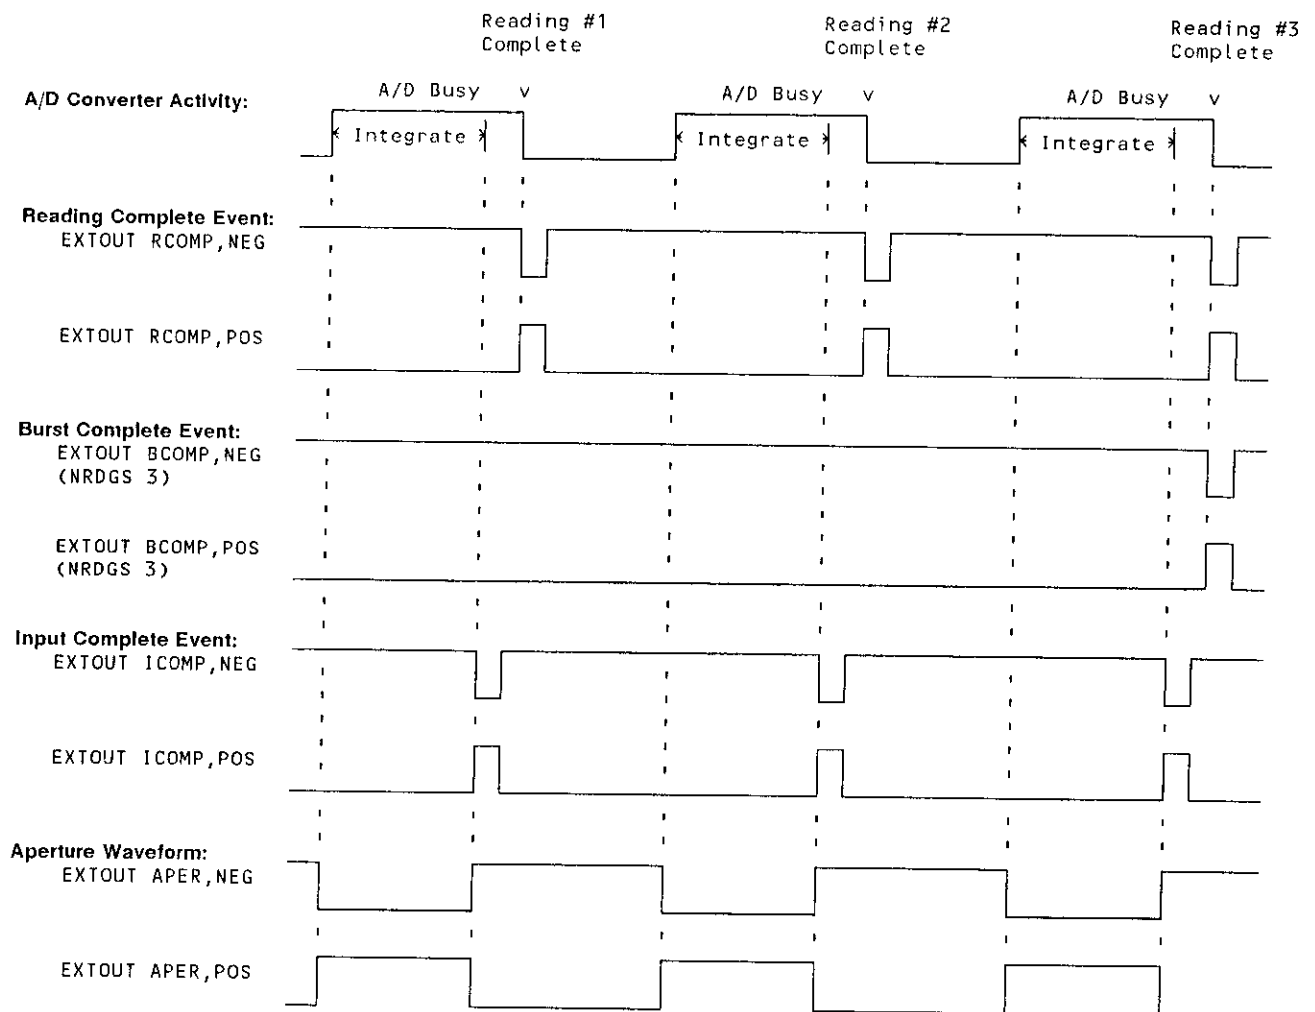
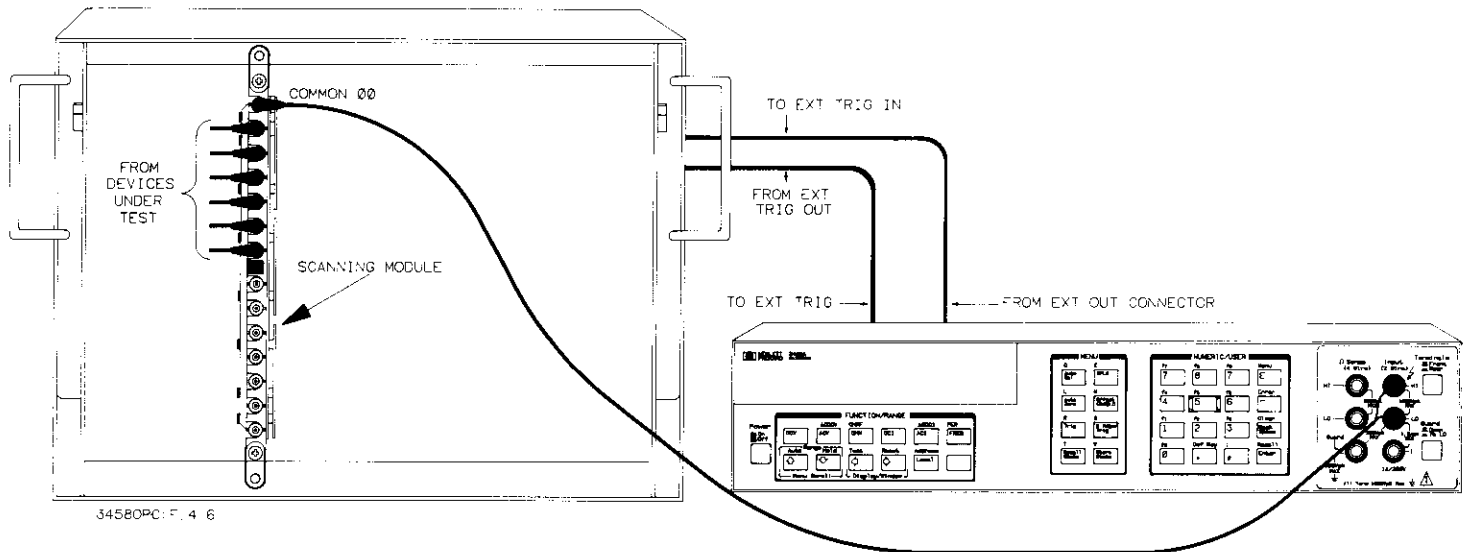

Figure 4-5. A/D Converter Event Relationships
Figure 4-6. Using an External Scanner
Most of the above events apply to the multimeter's A/D converter. Figure 4-5 shows the relationship of these events to the A/D converter activity.
***NOTE:** The apparent time intervals shown in Figure 4-5 are for illustration purposes only. They are not meant to indicate the actual intervals produced by the multimeter.*
The following program uses the RCOMP event to synchronize the multimeter to a scanner (the example uses an HP 3235 Switch/Test Unit with a scanning module in slot 200). Measurement connections are shown in Figure 4-6. The scanner is programmed to output a low-going pulse after each channel closure (line 60). This pulse is connected to the multimeter's **Ext Trig** connector and triggers each reading. After each reading, the multimeter's EXTOUT signal causes the scanner to advance to the next channel. The channel closure generates a signal which in turn triggers the next reading. This sequence repeats until all 6 channels have been scanned. Readings are stored in the multimeter's reading memory.
When specified, the burst complete event (BCOMP event) produces a 1 μ s pulse following completion of a group of readings. The number of readings in a group is specified by the NRDGS or SWEEP command. The BCOMP event can be used to synchronize an external scanner to the multimeter when making multiple readings per scanner channel. The following program is similar to the preceding program except that it uses the BCOMP event and makes 15 readings on each scanner channel. Connections for this example are shown in Figure 4-6.
The input complete event (ICOMP event) is similar to the RCOMP event in that it produces a 1 μ s pulse for each reading. However, when the ICOMP event is specified, the pulse occurs when the A/D converter has finished integrating the input signal but before the reading is complete (see Figure 4-5). The ICOMP event can be used with an external scanner when making a single reading per scanner channel. This event is especially important when using a slower (relay type) scanner. Since the ICOMP event occurs before the reading is complete, it advances the scanner sooner than would the RCOMP event. The following program uses the ICOMP event to make one reading on each of 6 scanner channels. Notice that line 40 enables trigger buffering. This prevents the multimeter from generating the TRIGGER TOO FAST error should the scanner output a channel closed pulse before the present reading is complete. Connections for this example are shown in Figure 4-6.
When specified, the aperture waveform event (APER event) outputs a waveform indicating when the A/D converter is measuring the input signal. In addition to showing when a reading is being measured, the aperture waveform also shows any autozero and autorange measurements being made. This waveform can be used to synchronize external switching equipment to the multimeter. For example, to ensure an electrically quiet environment for high-accuracy measurements, it may be necessary to suspend the operation of external switching equipment while the A/D converter is integrating each reading. This can be done by enabling the APER event and by programming the external switching to occur only when the aperture waveform indicates that the A/D converter is not integrating the input signal. To following program line enables the APER event with positive polarity (see Figure 4-5):